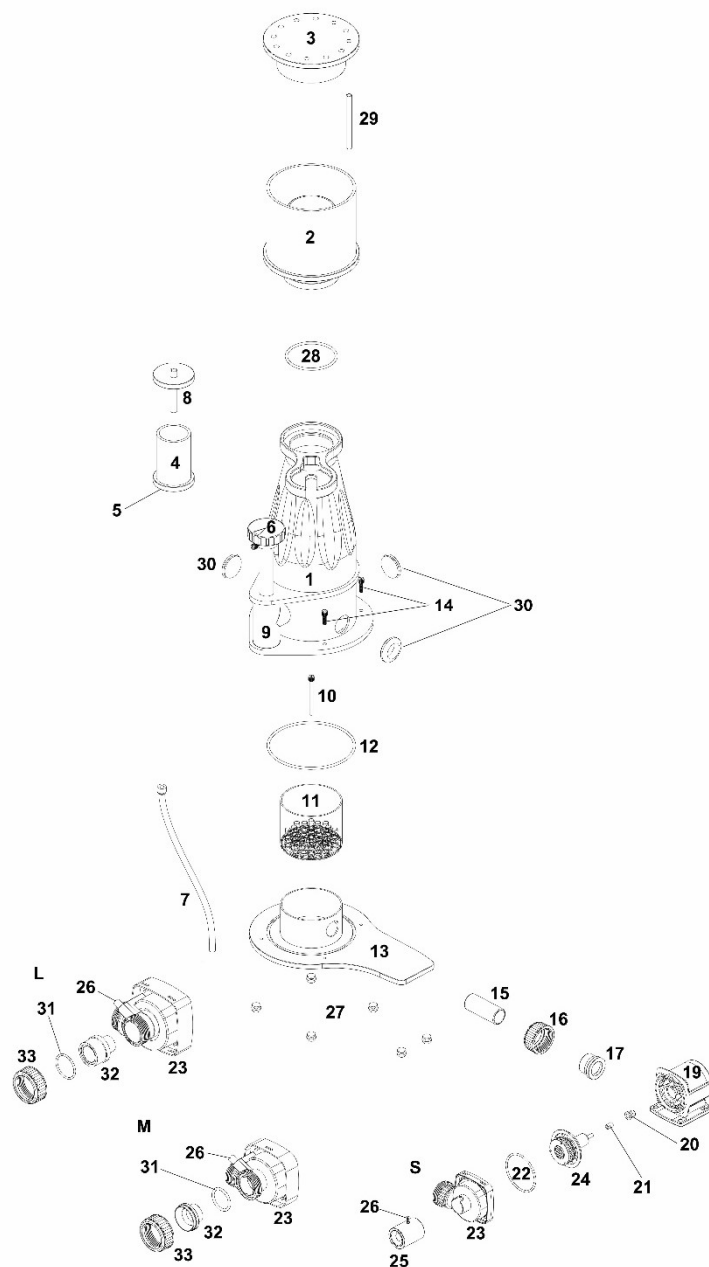

Fig. 1: Ocean Queen
Pressure side: The pressure side is connected to the skimmer by the existing connection by a piece of hose. Please make sure that the O-ring (Fig. 1, No. 18) is placed into the groove.
- The air tube has always to be installed upward over the water level in the skimmer. **This air tube must not hang down.** Therefore, it should always be connected to the silencer (Fig. 1, No. 5). The silencer has to be put into a borehole of the foam cup's lid. Connect the bottom end of the tube to the air intake of the pump. The foam cup is simply inserted into the skimmer's housing from the top.
the adjusting screw (Fig. 1, No. 6) and / or the pump controller so that a nearly dry foam will be produced. There is an arrow on the adjusting screw. If it points to the skimmer, the outlet is set to the lowest level.